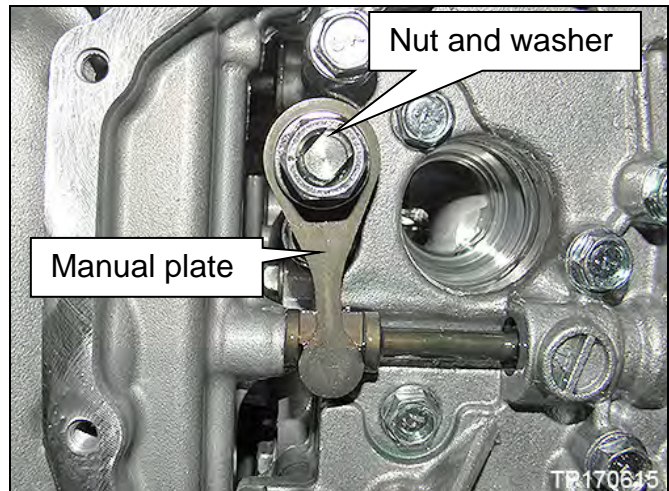

Figure 6B
11. Remove the nut and washer, and then remove the manual plate shown in Figure 6B.